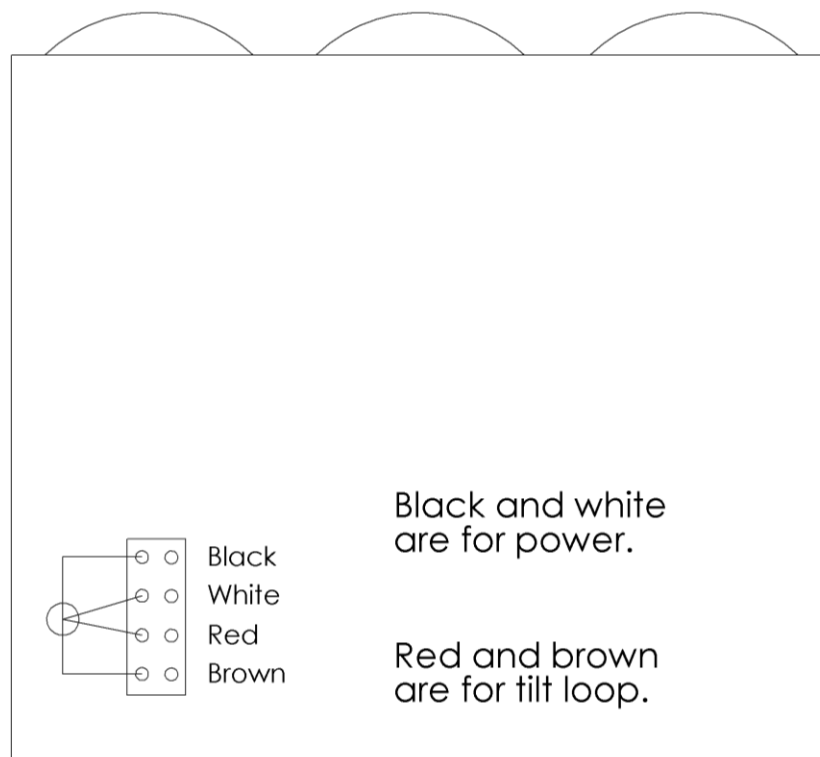

Figure 12: Light Unit Wiring
- Attach the fork terminal to the terminal block as per the figure 12